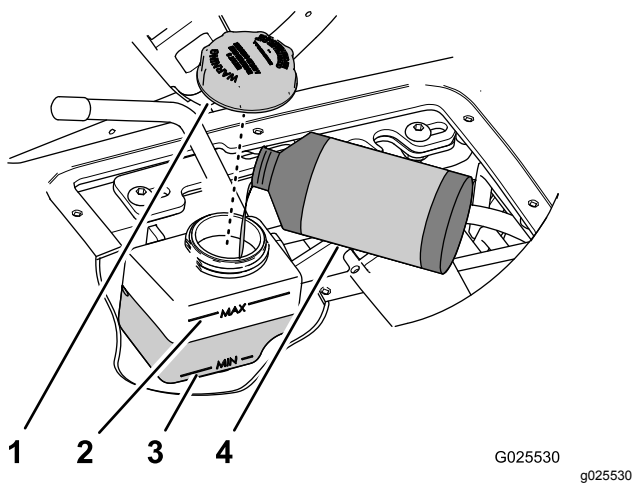

Figure 61
4. Check the fluid level in the reservoir for the speed-control cylinder (Figure 61).
- A. Wipe clean the area around the cap for the reservoir (Figure 61).
- B. Remove the cap from the reservoir (Figure 61).
- C. Add the specified fluid to raise the level midway between the Min and Max marks on the side of the reservoir (Figure 61).
- D. Install the cap hand tight (Figure 61).